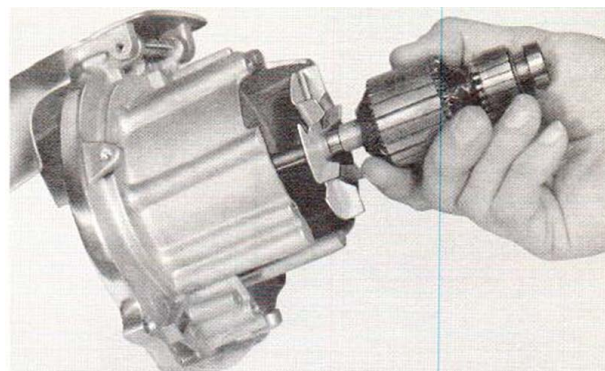
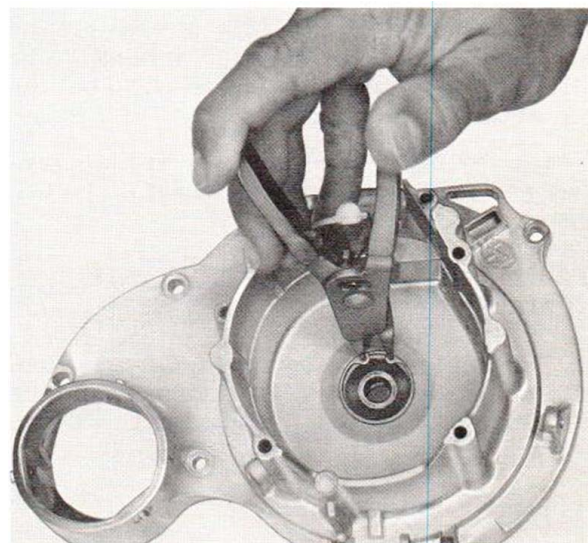

Figure 1-16. Removing armature
Figure 1-17. Removing bearing retaining ring from motor housing
(4) Remove shaft of armature (78) from the front bearing (76) as shown in figure 1-16. If the front bearing is defective, use special retaining ring pliers (Waldes Truarc No. 0300) to remove the retaining ring from the bore in the motor housing casting as shown in figure 1-17. Press the front bearing from its seat in the motor housing casting. Do not remove the front bearing seal (74, fig. 1-1) or the seal retainer (75) unless they are badly worn.
(5) To remove armature rear bearing (79), attach bearing puller (SP125).
(6) Remove thrust washer (80) and rear bearing finger spring (84) from bearing seat at rear of motor bell housing.
(2) Press a new front bearing (76) into the housing bore. Take care to press against only the outer bearing race to prevent bearing damage. Using special retaining ring pliers (Waldes Truarc No. 0300), install retaining ring (77) to secure the bearing in the housing bore. Refer to figure 1-17.